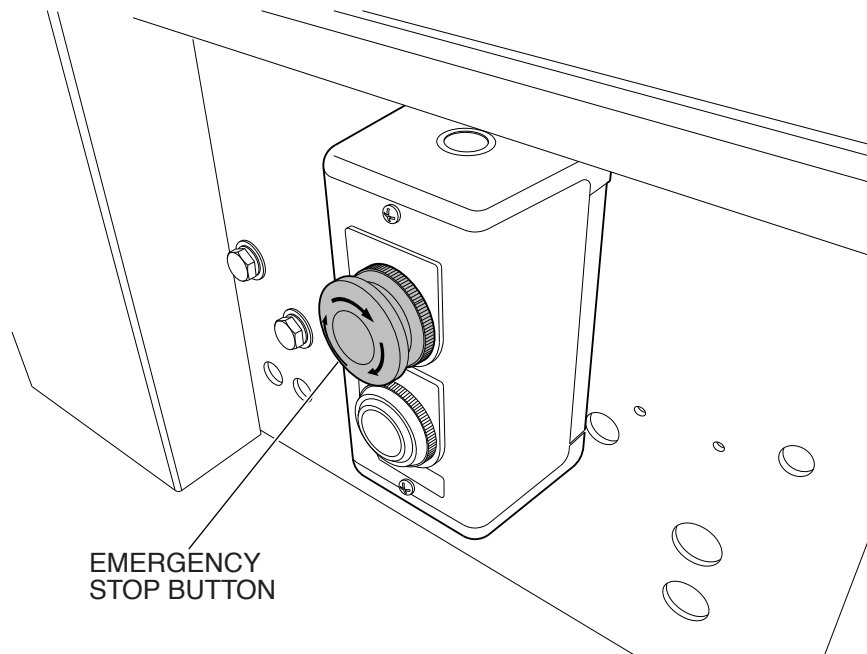

Figure 4 Emergency stop button
- 3. Shut off machine in case of emergency. Machine is shut off by pressing emergency stop button (see figure 4)**
- 4. Shut off power before adjusting or servicing machine. Machine is shut off by pressing emergency stop button (see figure 4)**
- 1. Press the emergency stop button (figure 4) to shut-off machine.**
1. Press the emergency stop button (figure 4) to shut-off machine.